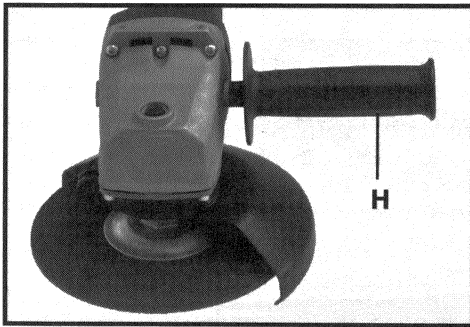

Fig. 2
An auxiliary handle (H), Fig. 2, is furnished with your machine and can be installed on either side of the front housing. This handle **SHOULD BE USED AT ALL TIMES** to maintain complete control of the machine.